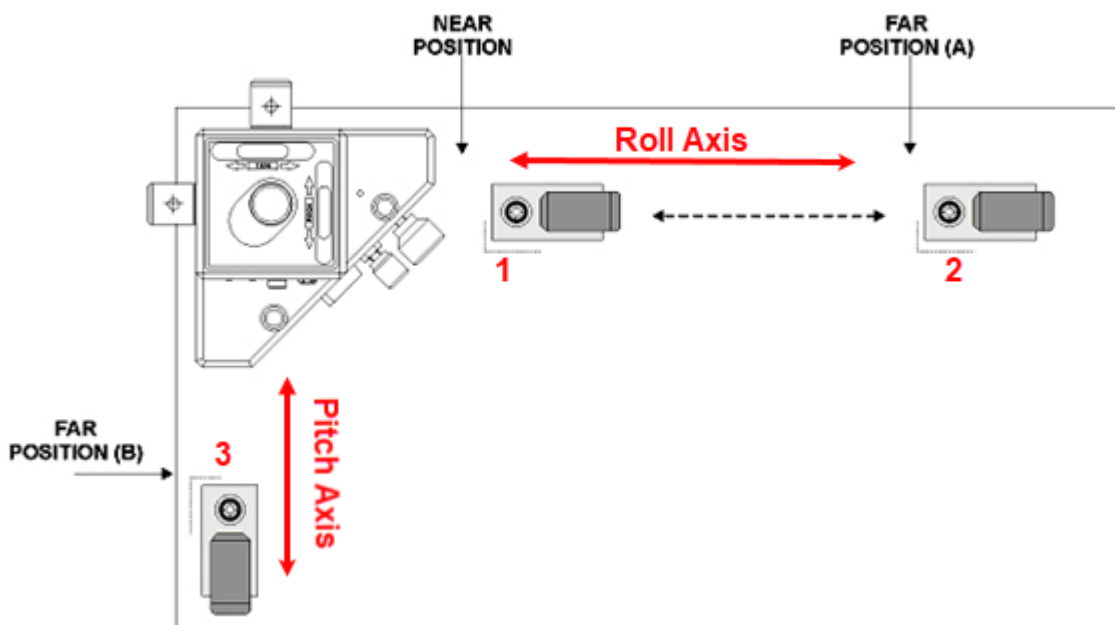

Figure 21 – 3-Point Buck-In
Be sure to use only *Pitch Axis* adjustment knobs that face the target when tilting the laser beam (in the setup displayed in Figure 21, this would be the PITCH adjustment).
- 1. Zero all three targets on the near position (1)– see Figure 21.**